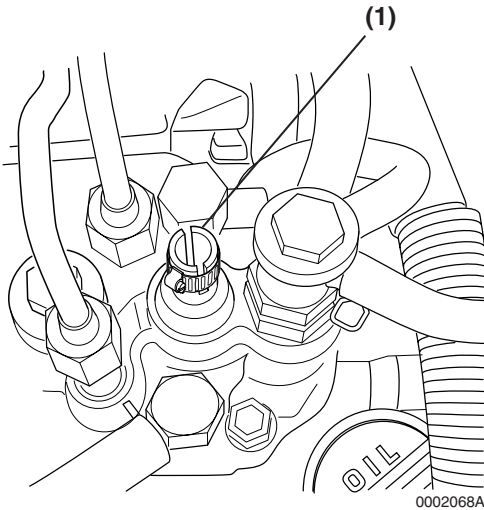
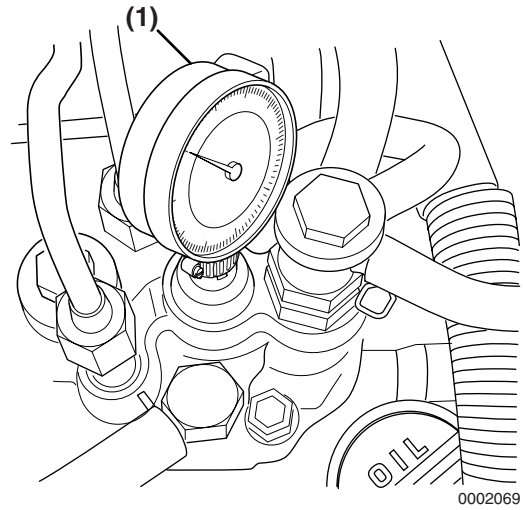

Figure 7-36
Figure 7-37
Note: Use the Yanmar part no. 158090-51831 M14 adapter for the MP2 fuel injection pumps (TNV82 - 88 model engines) or Yanmar part no. 158090-51841 for the M16 adapter used on the MP4 fuel injection pumps (TNV94 - 106 model engines) and Yanmar part no. 23000-013000 plunger adapter clamp (**Figure 7-36, (1)**).
5. Install a dial indicator (**Figure 7-37, (1)**), Mitutoyo No. 2050SB or equivalent, with a 30 mm extension, Yanmar part no. 158090-51870 or Mitutoyo No. 303613, into the adapter. Secure with the Yanmar part no. 23000-013000 plunger adapter clamp (**Figure 7-36, (1)**) at approximately the mid-point of its travel.